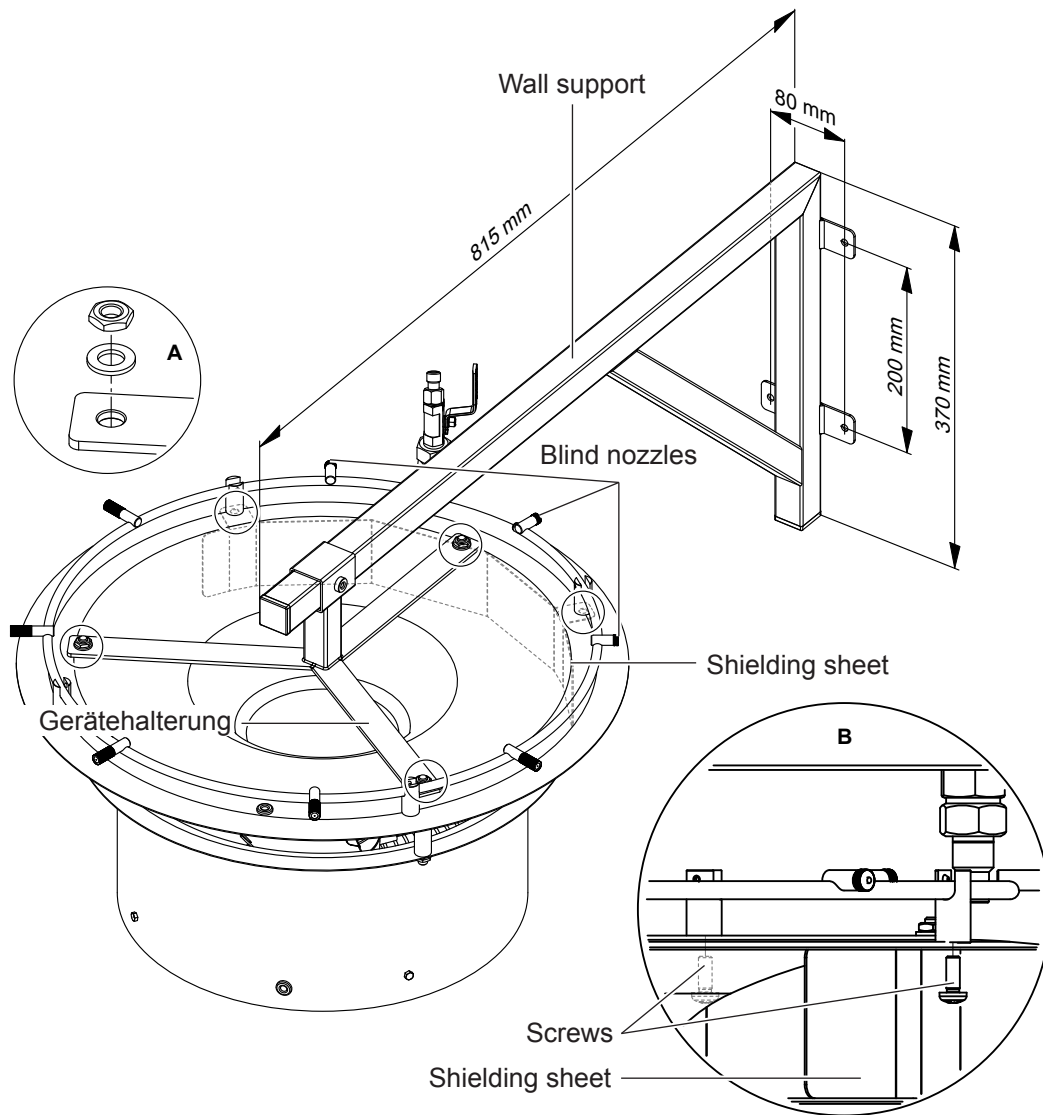

Fig. 29: Wall mounting Condair Vita Space
3. Fix the supplied shielding sheet to the side facing the wall from below using the two screws to the baffle plate (see Fig. 29, Detail A).
5. Fix the three-pronged device holder to the baffle plate of the Condair Vita Space nebulizer using the nuts and washers (see Fig. 29, Detail B).